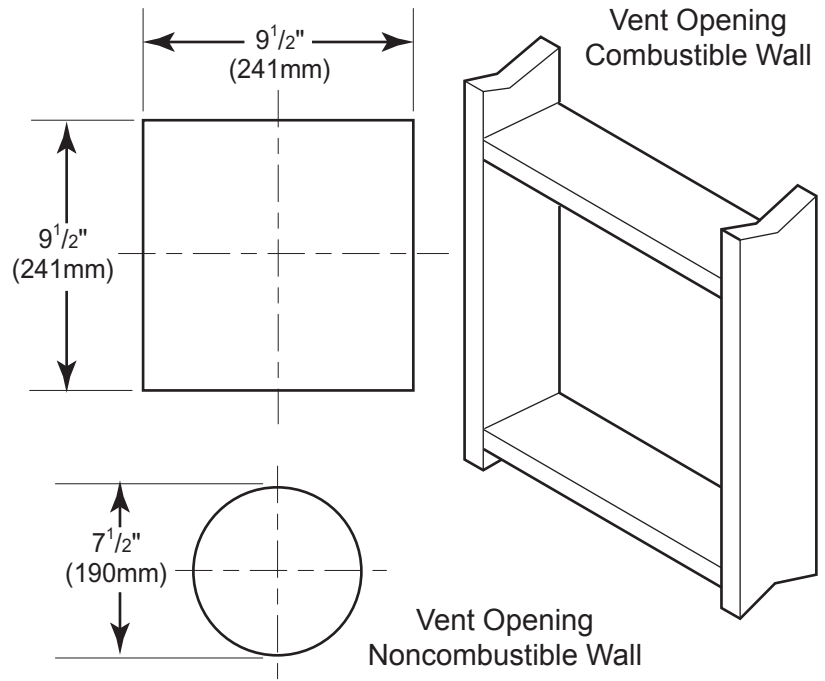

Figure 11 - Vent Opening Requirements
- Attach vent pipe assembly to the stove. Set stove in front of its permanent location to insure minimum clearances. Mark the wall for a 9 1/2" (241) square hole (for noncombustible material such as masonry block or concrete, a 7 1/2" [190mm] diameter hole is acceptable). See Figure 11. The center of the hole should line up with the center line of the horizontal rigid vent pipe end. Be sure to allow for minimum rise. Cut a 9 1/2" x 9 1/2" (241mm X 241mm) square hole through combustible exterior wall (7 1/2" [190mm] diameter hole if noncombustible). Frame as necessary. See Figure 11.
3. Cut a hole in the roof using the locating hole as a center point. (Cover any exposed open vent pipes before cutting hole in roof). The 9¹/₂"x9¹/₂" (241 mm x 241mm) hole must be measured on the horizontal. Actual length may be larger depending on the pitch of the roof. There must be a 1" minimum clearance from the vent pipe to combustible materials. (Insulation should be considered a combustible material) Frame the opening as shown in Figure 11 on page 14.